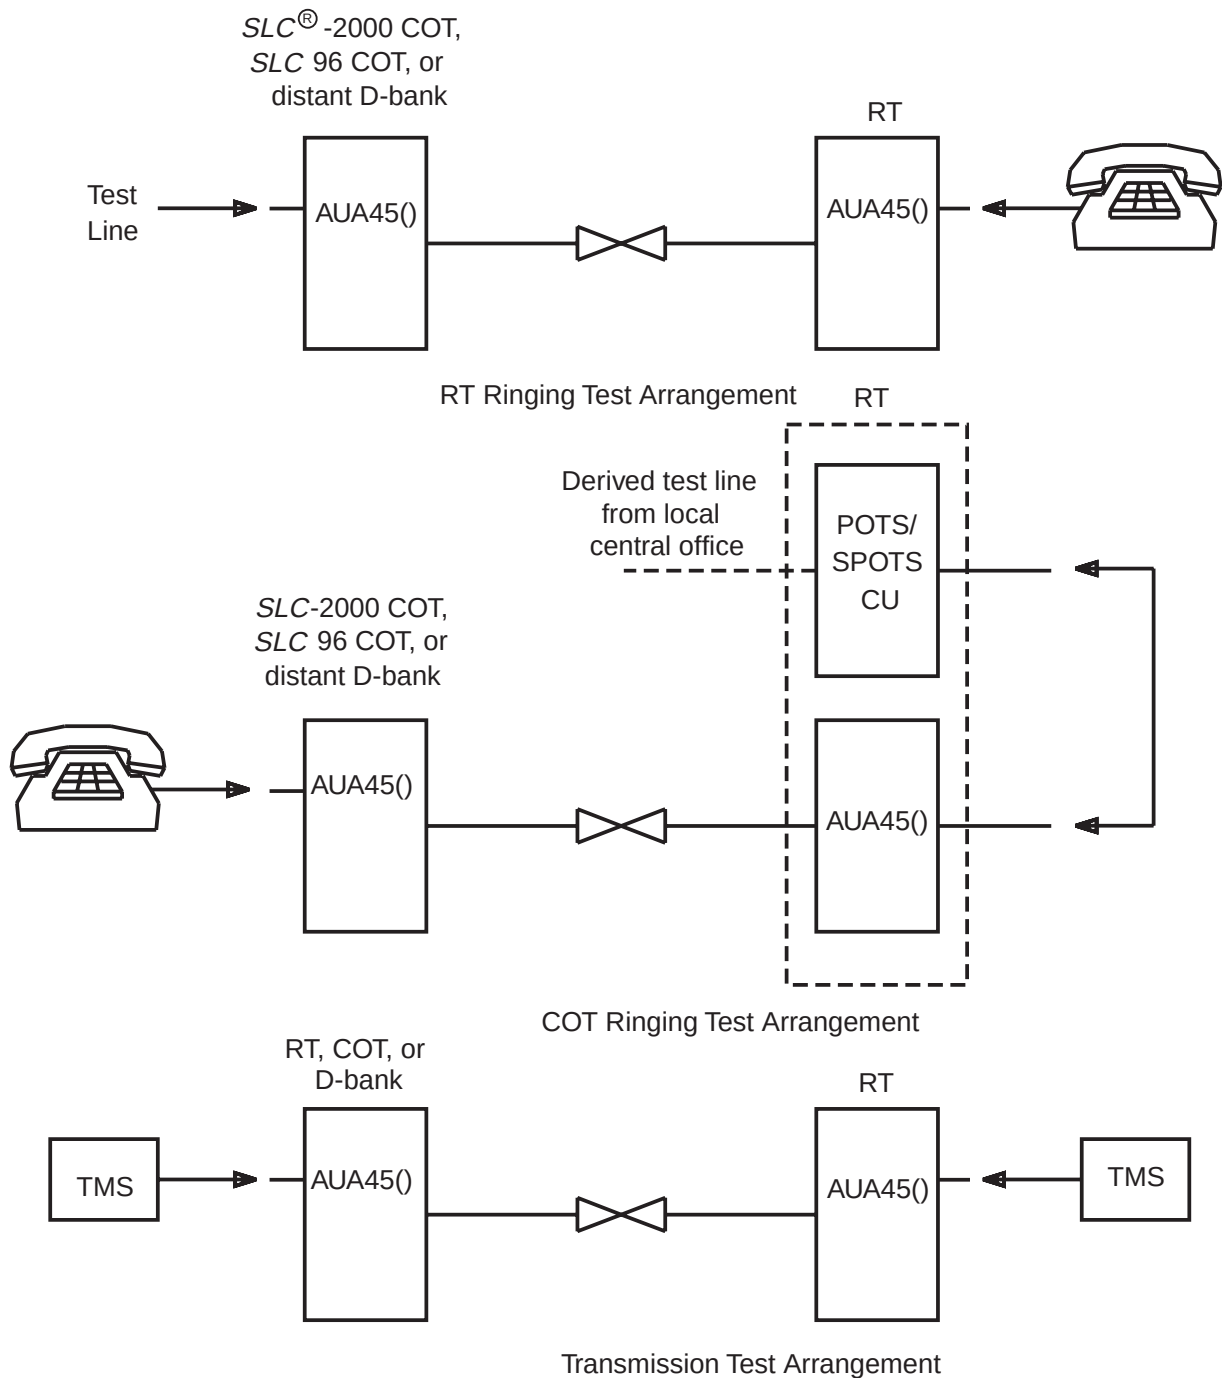

Figure 1 – AUA45() Test Connections
3. At the RT, connect a test telephone to T/R of the **AUA45()** channel being tested. See Figure 1, *RT RINGING Test Arrangement*.
9. At the terminating CO, connect a test telephone to the T/R appearance of the circuit being tested. See Figure 1, *COT Ringing Test Arrangement*.
13. At the RT and at the CO, connect a transmission measuring set (TMS) to T/R of the circuit being turned up. See Figure 1, *TRANSMISSION Test Arrangement*.
14. At the CO, condition the TMS to send -TRMT (GN) dBm level at 1 kHz as follows:
- Set the TRMT LEVEL to -TRMT (GN) value from the WORD document.